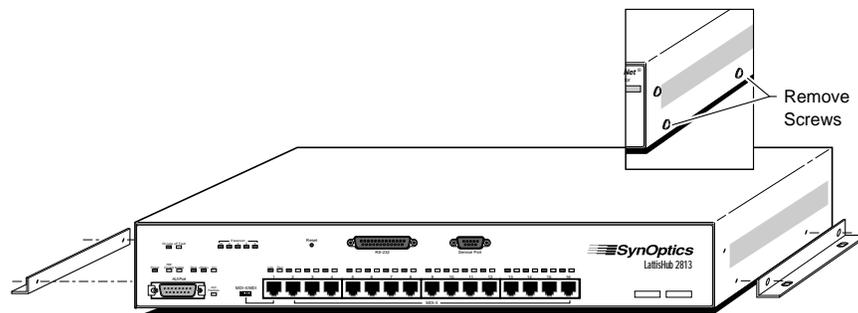

Figure 2-11. Attaching Brackets for Wall Mounting
- a. Using a #1 Phillips screwdriver, remove the two bottom screws on each side (see Figure 2-11).
- b. Hold a mounting bracket against each side of the con-centrator where you removed the screws, as shown in Figure 2-11, and align the countersunk screw holes in the bracket with the bracket mounting holes in the concentrator.
- c. Insert two #4-40 x 5/16" flat-head screws through each bracket and into the bracket mounting holes in the con-centrator cabinet (see Figure 2-11). Using a #1 Phillips screwdriver, tighten the screws to secure each bracket.